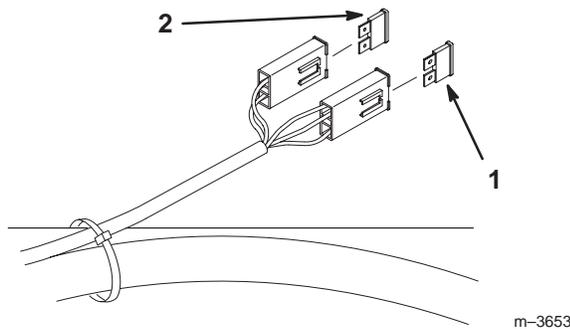

Figure 44
1. Raise the seat to gain access to fuse holder (Fig. 44).
2. To replace fuses pull out on the fuse to remove it (Fig. 44).